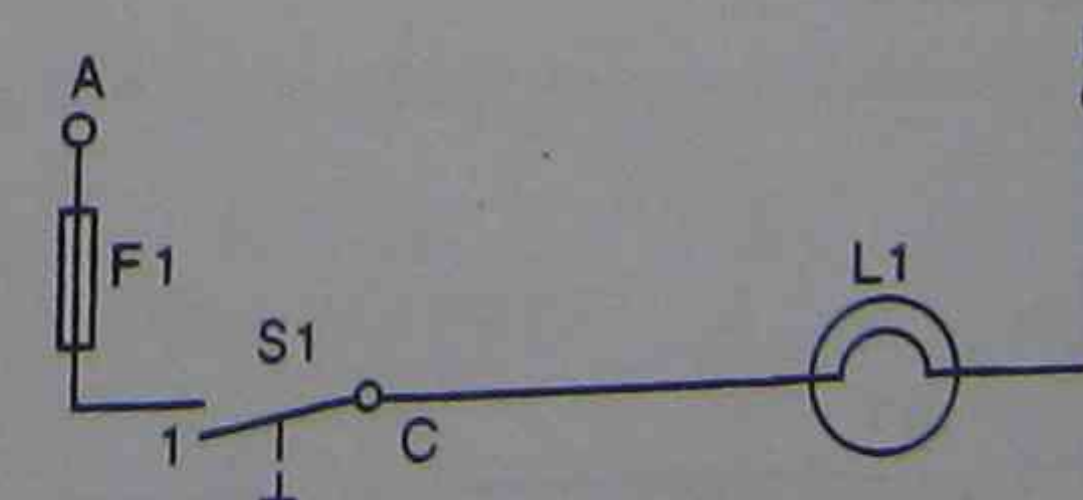
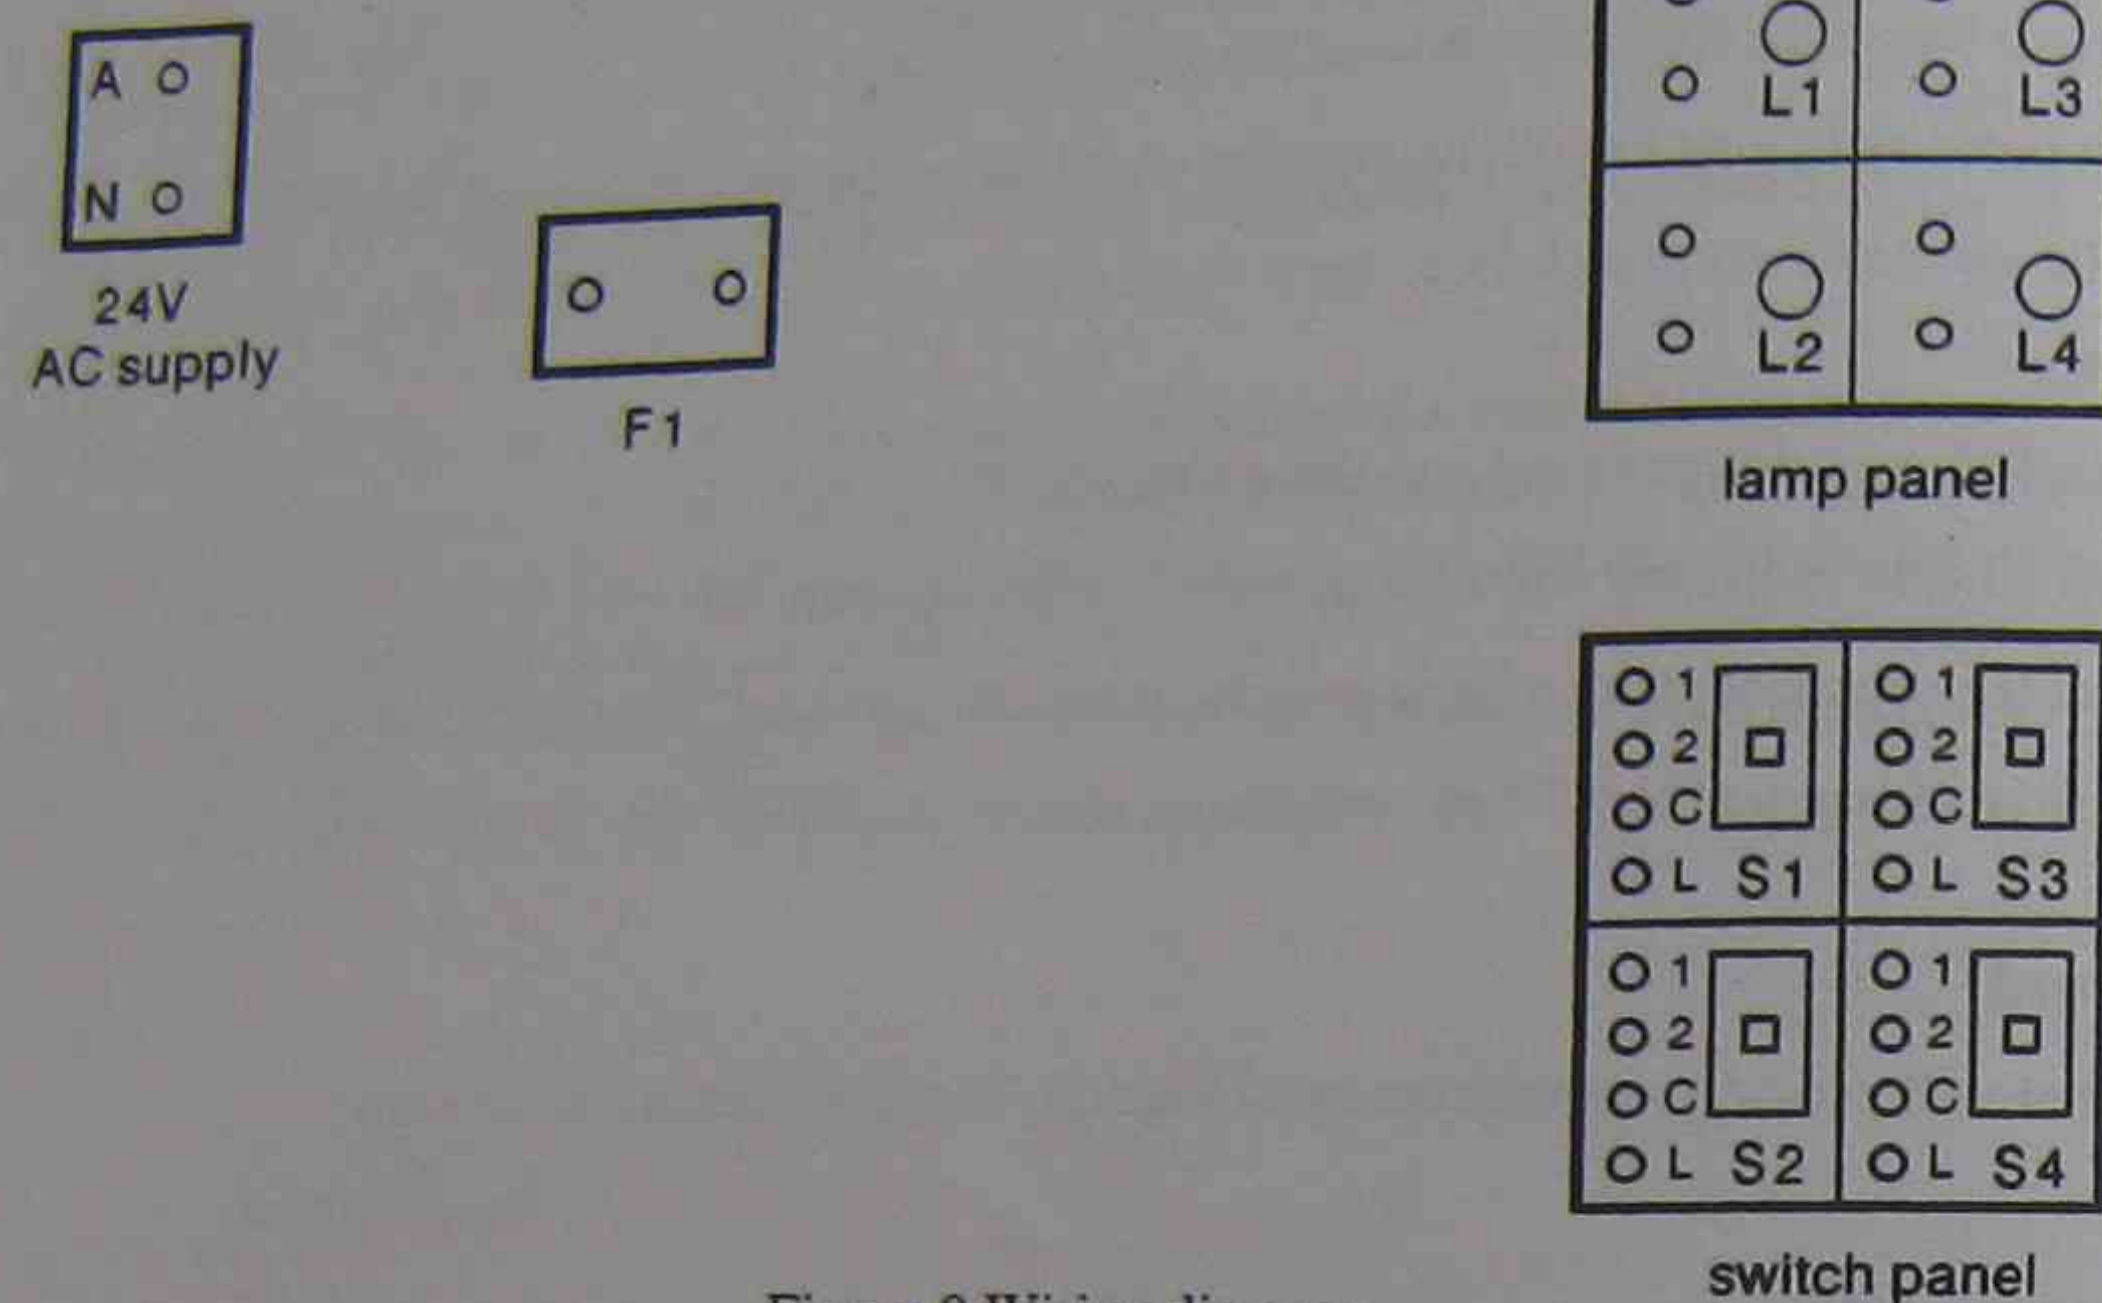

Figure 8 Circuit diagram
Figure 9 Wiring diagram
1. For the circuit diagram shown in Figure 8 neatly sketch on the layout of Figure 9 the wiring diagram for the circuit.